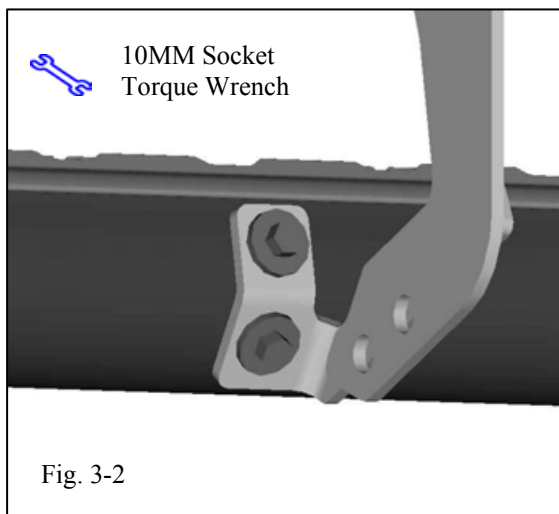

Fig. 3-2
- (b) Thread in two M8 sems bolts per bracket location, through bracket, and into threaded holes in tube. Install finger tight (8 Places) (Fig. 3-2).